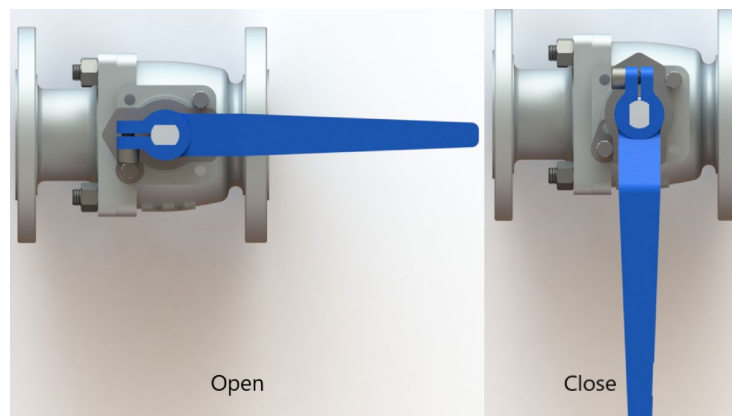
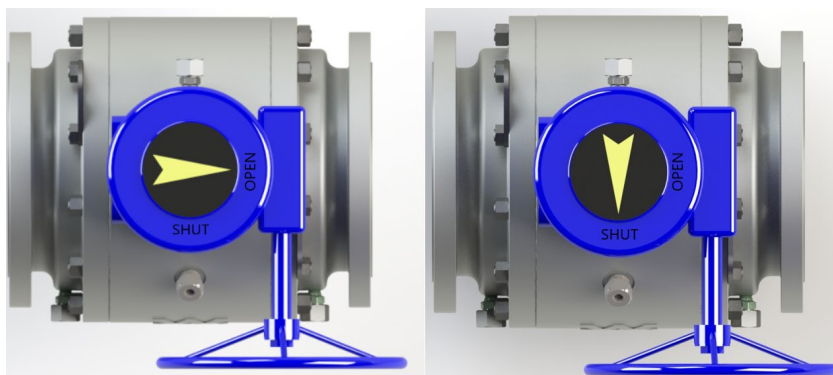

Figure 4
Figure 5
- B. Ball valves shall be of quarter-turn design (90° rotation) with clockwise closing and counterclockwise opening (Fig. 4). For lever-operated valves, ensure adequate clearance for unobstructed operation. For gear operated valves, the position is indicated by the arrow-indicator (Fig. 5).